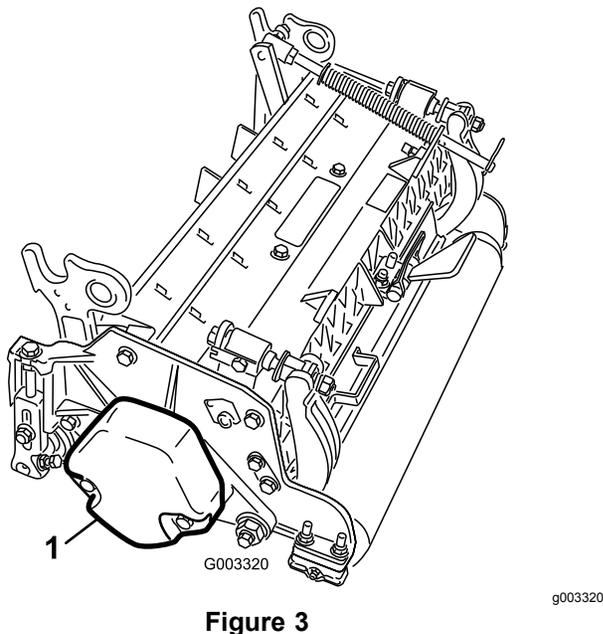

Figure 3
- Make sure that the counter weight (Figure 3) is installed to the proper end of each cutting unit as described in the *Operator's Manual* for the cutting units.